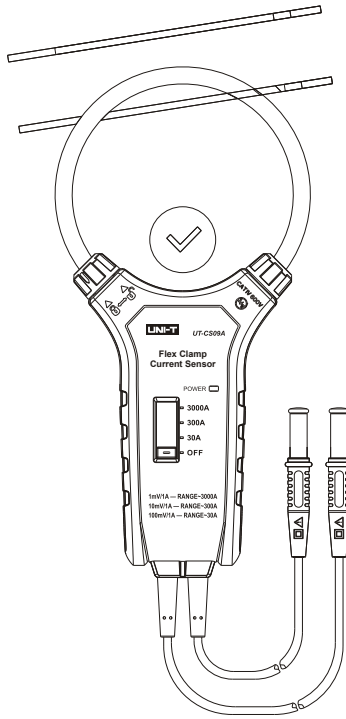

Figure 4
3. Use the Rogowski coil to wrap and lock around the conductor to be measured. (see figure 4)